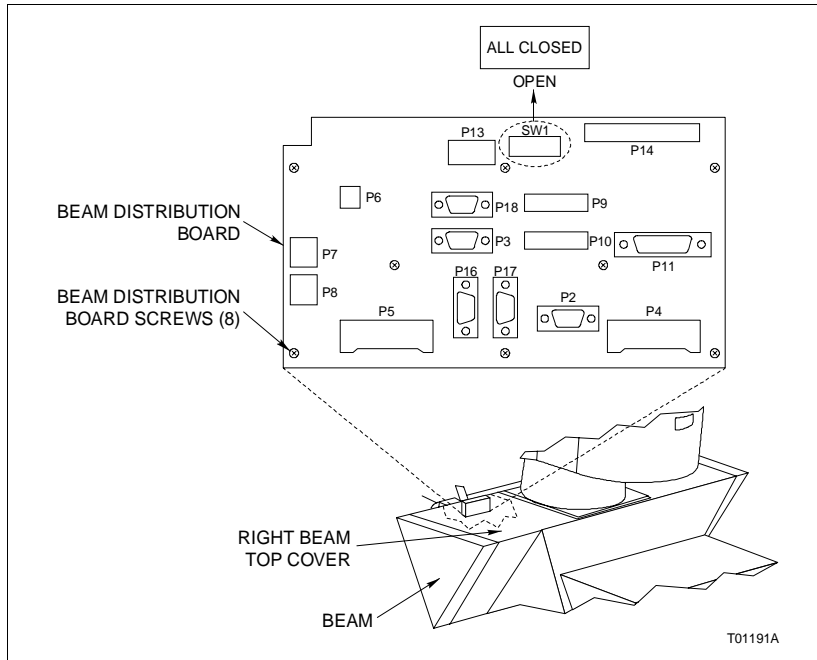

Figure PR13-1. Beam Distribution Board Replacement
- 2. Unlock and remove the right beam top cover by sliding it toward the front of the beam. Once unlocked, lift it off of the beam (Fig. PR13-1).